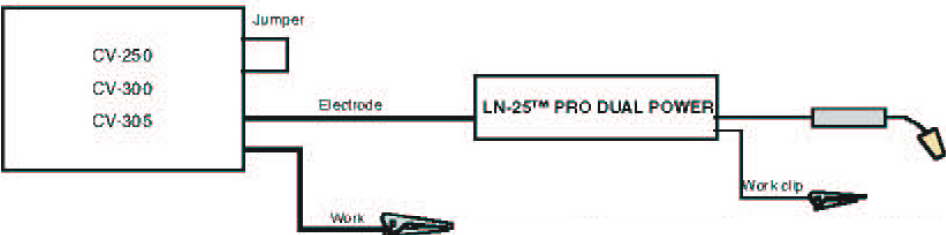

**Fig A.8**
**CV Power Source with Twist-Mate Connectors and Remote/Local Switch. (See Fig A.8)**